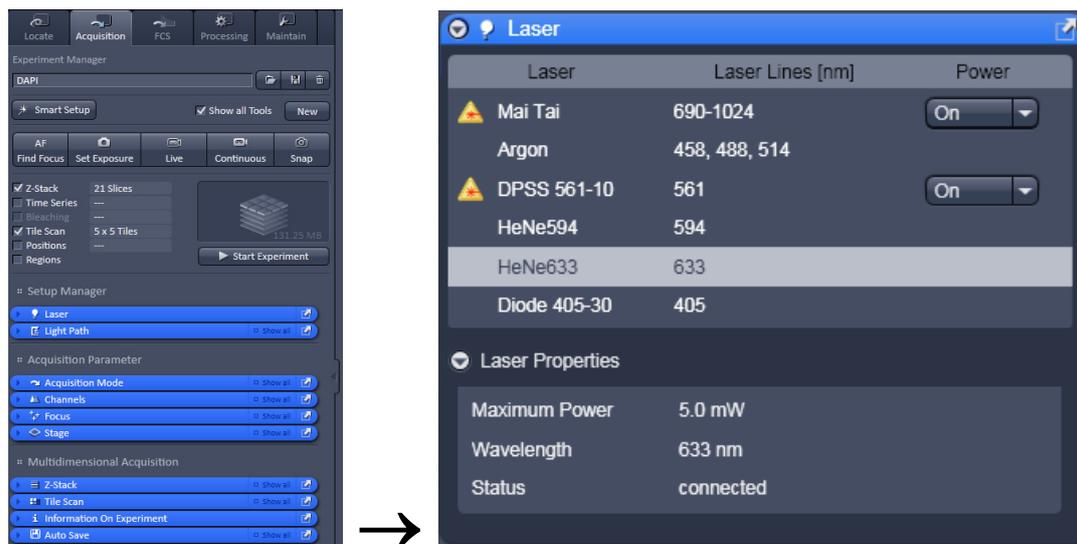

Fig. 10 Laser Control tool
- Click the **Show all tools** tickbox and open the **Laser** tool. All available lasers can be operated within this tool (Fig. 10).